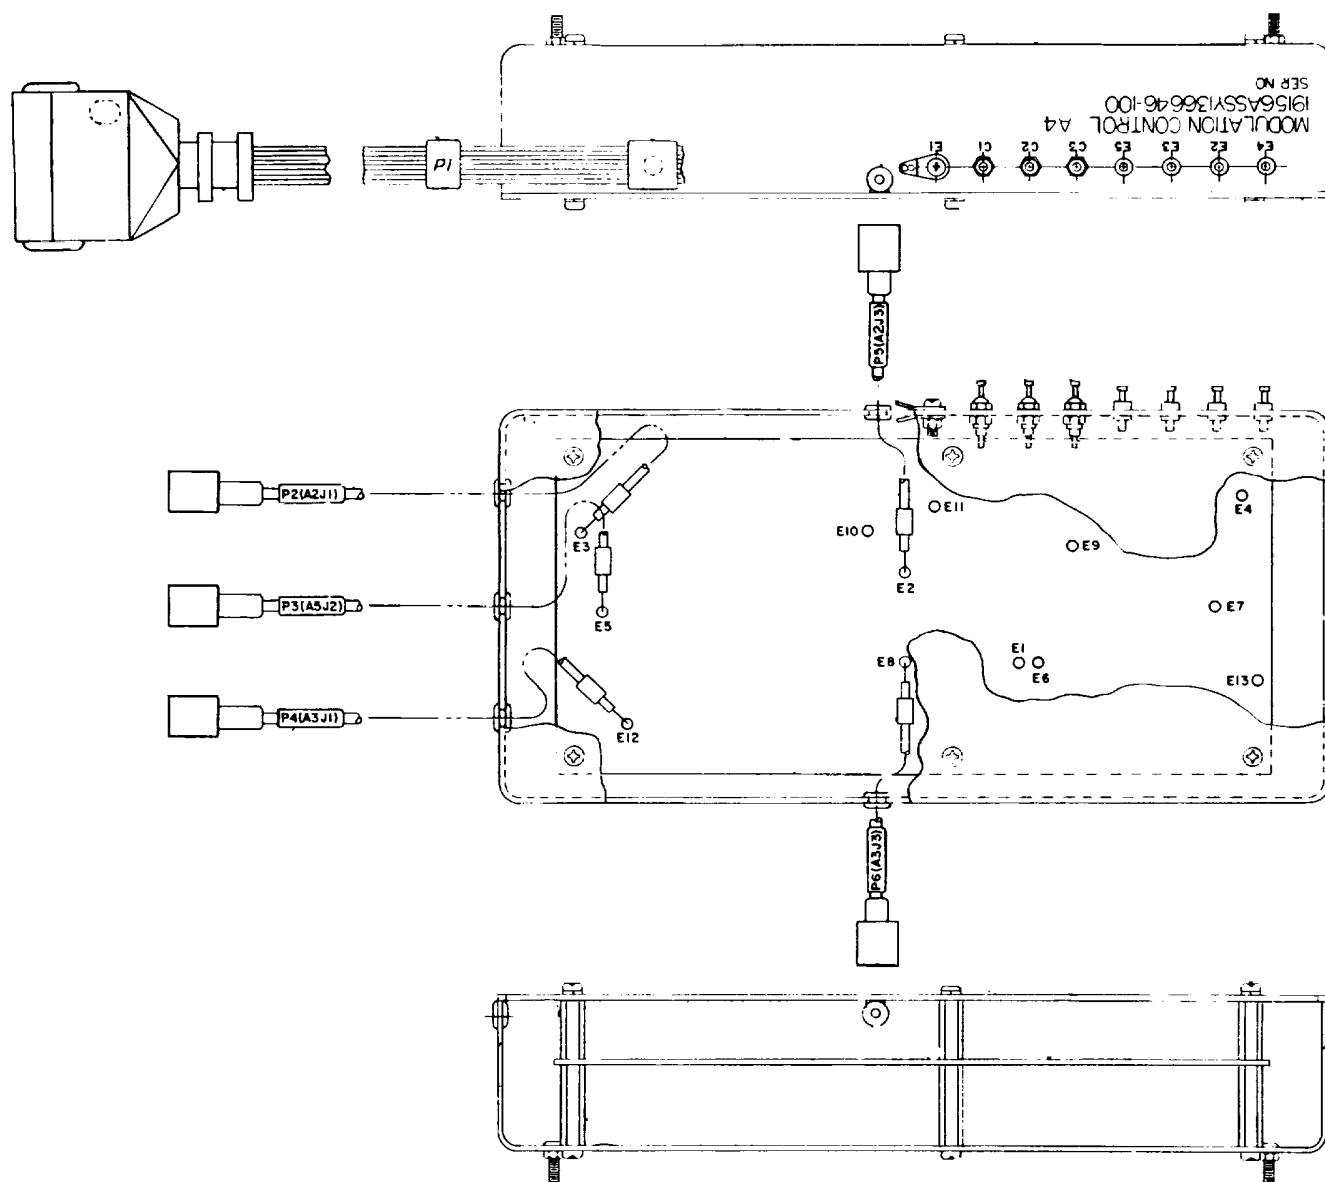

Figure 7-5. Modulation Control, 1A5A4 Parts Location Diagram
e. Modulation Control Assembly (1A5A4) Disassembly. To remove the modulation control assembly perform the following procedures. Further disassembly should be limited to removal of parts for repair or replacement Refer to figure 7-5 for location of components to be replaced.
- (1) Disconnect the five coaxial cables from the modulation control assembly.
- (2) Disconnect multi-conductor plug from chassis jack.
- (3) Remove four nuts and washers holding the modulation control assembly in place.
- (4) Unsolder the solder connections holding capacitors C1, C2 and C3 in place.
- (5) Remove the modulation control assembly from the chassis.